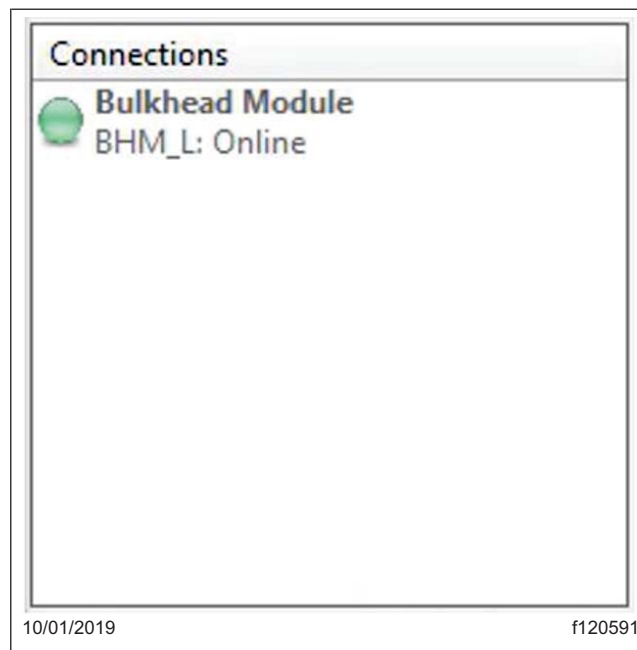

Fig. 1, Verifying that the BHM is Connected
3. Ensure that the BHM is connected. See Fig. 1.